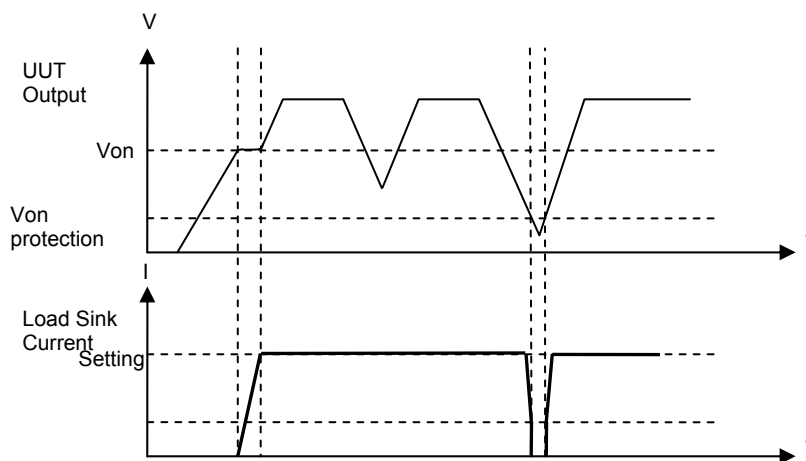

Figure 3-20 When Von Point is not set to 0V with Protection
- (3) When it is “LOAD ON”, VON POINT is not set to 0V and Von Protection is enabled, switch the SW to on after it was turned off for a period of time and then turn it off again. There will be no current loading when the power is lower than the default protection voltage, and once the SW is turned off and the power is larger than the default voltage, the loading state will regain as Figure 3-20 shows.